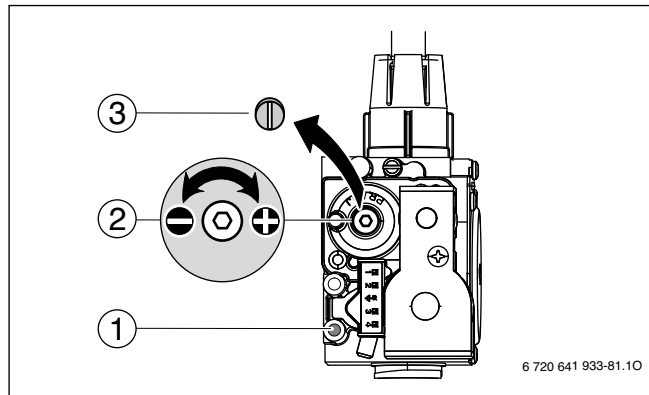

Fig. 61 Setting the CO₂ or O₂ values for minimum nominal output
- ▶ Remove screw (→ Fig. 61, [3]) from the gas valve adjustment screw (→ Fig. 61, [2]) and set CO₂ or O₂ value for minimum nominal output.
- ▶ Reinstall screw (→ Fig. 61, [3]) to cover the adjustment screw (→ Fig. 61, [2]) on the gas valve again.